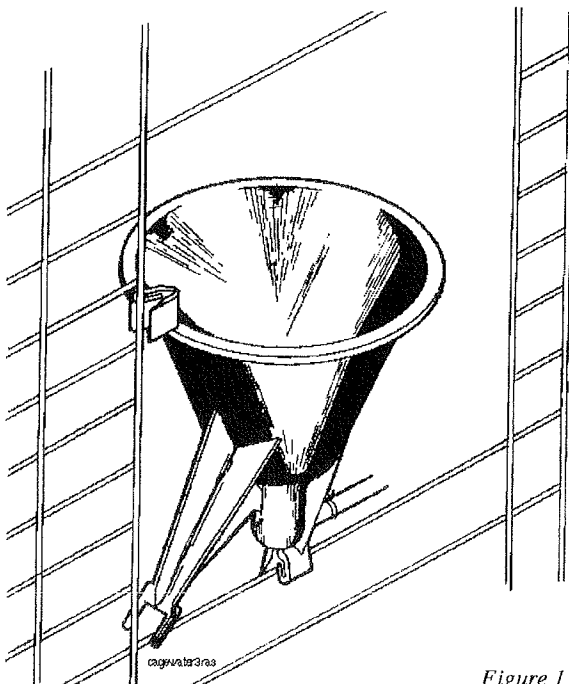
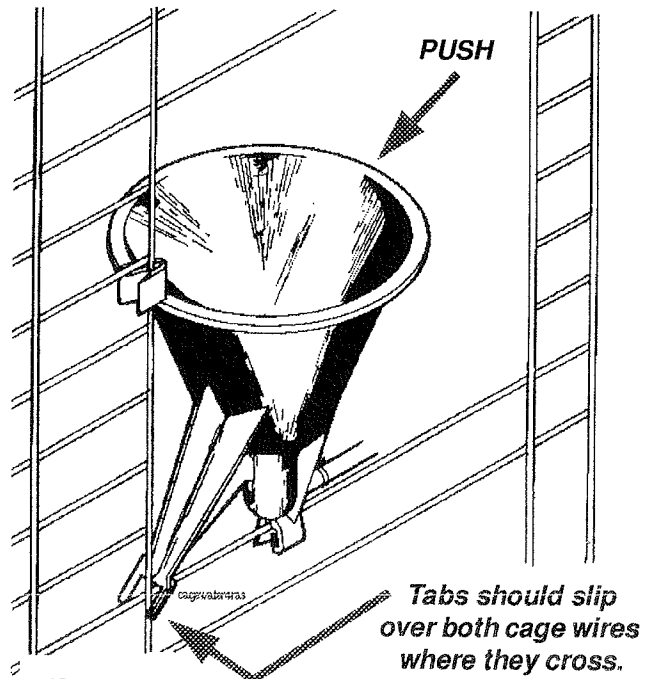

Figure 11.
Figure 12.
1. Place the Cup and Hose Assembly into the cage partition opening as shown in Figure 11. Snap the cup into place as shown in Figure 12. If the cup has a spout, it should point away from feed trough.